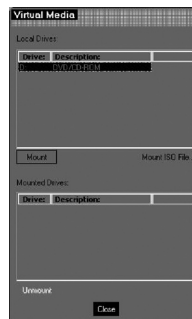

Figure 36 Virtual Media
1. Click “Virtual Media” and the “Virtual Media” dialog box appears (see Figure 36). All connected mass storage devices appear in the “Local Drives” section.
3. Click “OK”. The device mounts onto the target server and appears as a removable or CD/DVD drive of the target server. It also appears in the “Mounted Drives” section in Figure 36. Once mounted, you can use the device during the remote session as if it is connected to the target server.